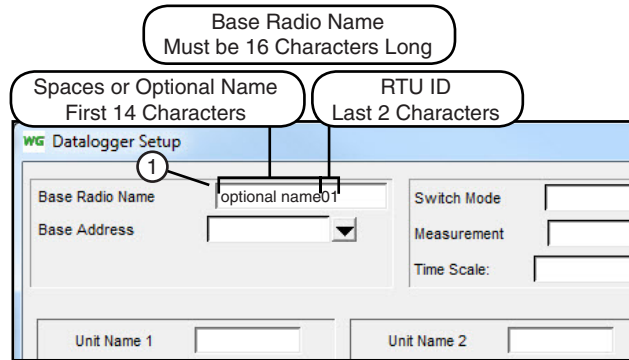

Figure 30-1 1. Base Radio Name Field
- k. Click in the Base Radio Name field. See figure 30-1.